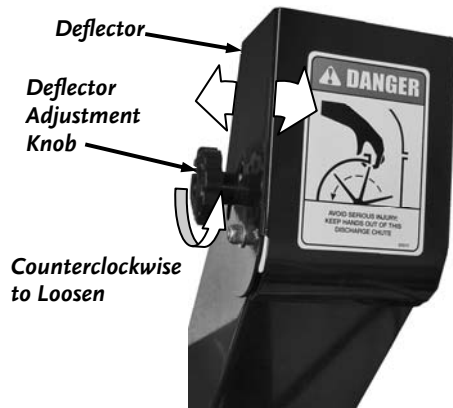

Figure 11
1. Loosen the Deflector Adjustment Knob by turning it counterclockwise (*Figure 11*)